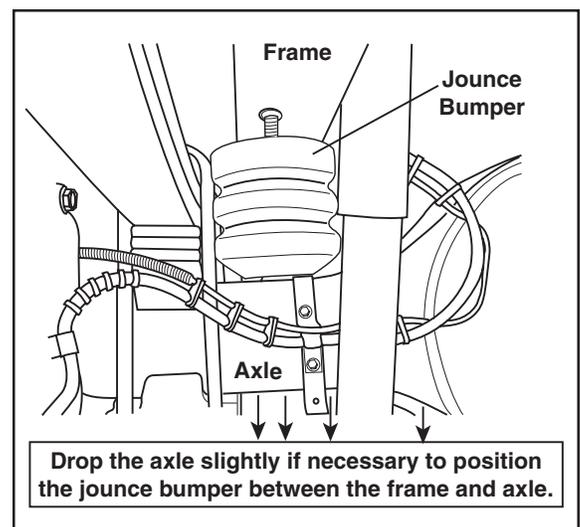

Figure 7
3. Mount the jounce bumper under the frame using O.E.M. hardware. Tighten securely (Figure 7).
*NOTE: Drop the axle slightly if necessary to position the jounce bumper between the frame and axle (Figure 7).*